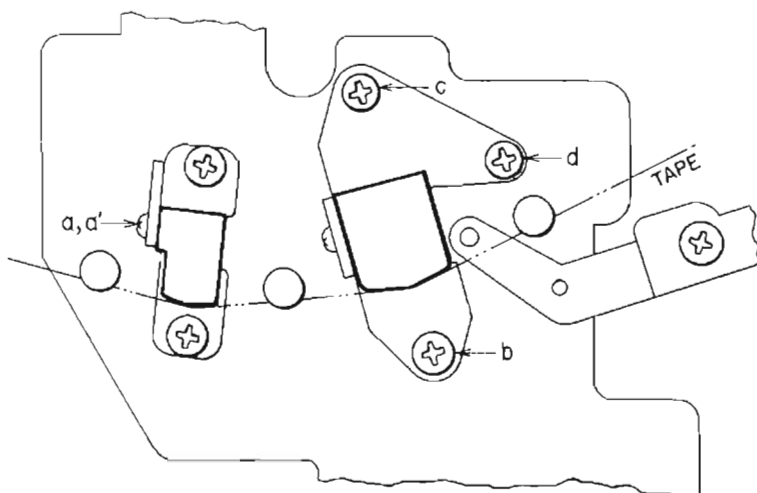

Fig. 13
(See Figs. 13 & 14)
2. RECORDING/PLAYBACK HEAD SLANT ADJUSTMENT (See Figs. 13 & 14)